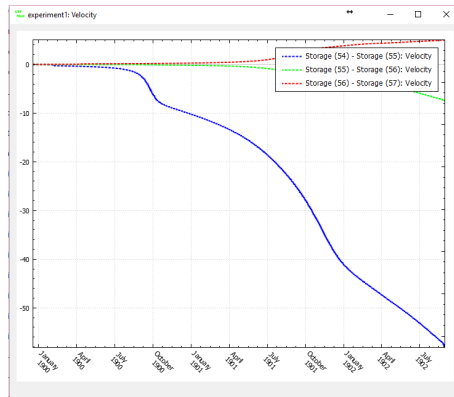

Figure 5: Darcy flux in select blocks
- Right-click on connectors of your choice and select **Velocity** from the drop-down menu. Figure 5 shows the flow rate in connectors connecting *Storage(54)* to *Storage(57)*. This shows the Darcy flux in the connectors.